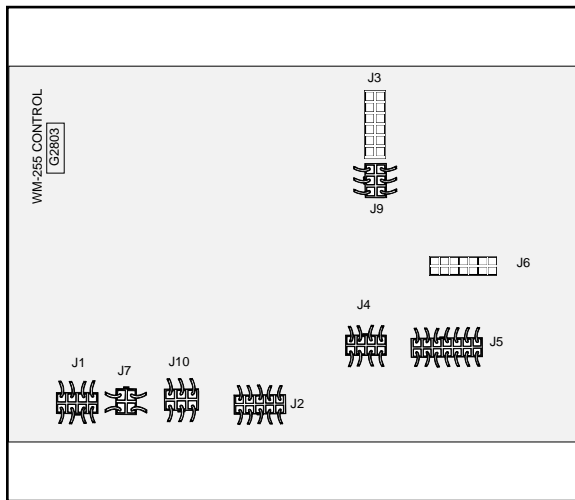

FIGURE F.5 - Control Board Molex Plug Locations for G2803 PC Control Board.
2. Disconnect Molex Plugs J3 and J6 from the G2803 Control Board. See Figure F.5.